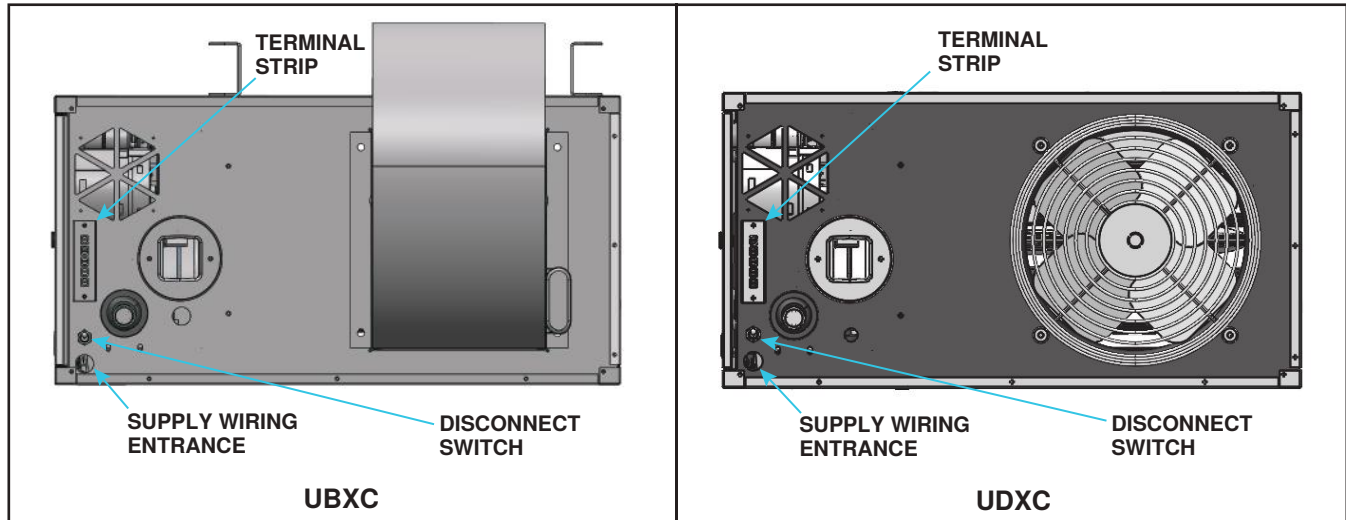

Figure 8. Supply Wiring Entrance and Control Connection Terminal Strip
- All units have a built-in disconnect switch (see Figure 8).
The supply wiring enters at the rear of the heater as shown in Figure 8 and connects to the built-in disconnect switch.
- Make thermostat connections at the terminal strip on the back of the heater (see Figure 8). The strip has five terminals: C, R, G, W1, and W2. Refer to the wiring diagram provided with the heater. Wires from the terminal strip are factory-wired to the circuit board. Ensure that if there is a heat anticipator setting on the thermostat, it is set at 0.6 amps or in accordance with the amperage value noted on the heater wiring diagram.